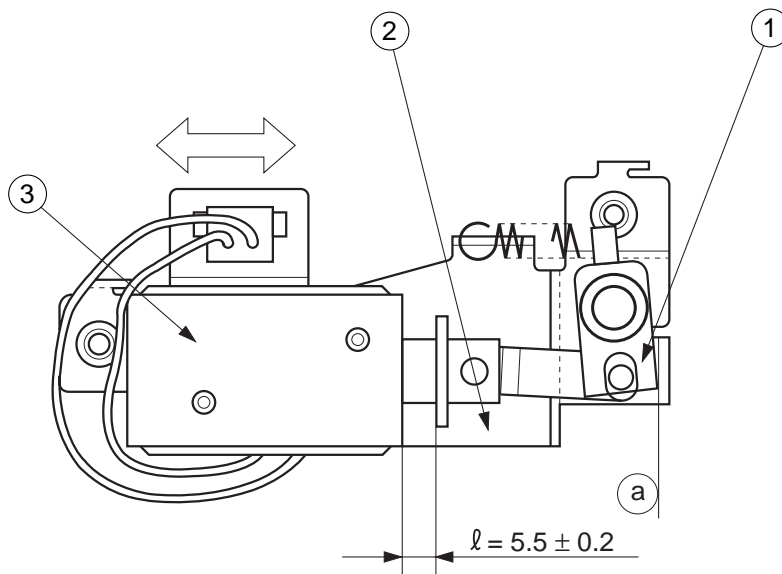

Figure 10-225
Loosen the two screws used to fix the solenoid ③ in place, and move the solenoid in the direction of B so that the l in Figure 10-225 is 5.5 ± 0.2 mm when the joint ① is butted against a of the solenoid support plate ②.